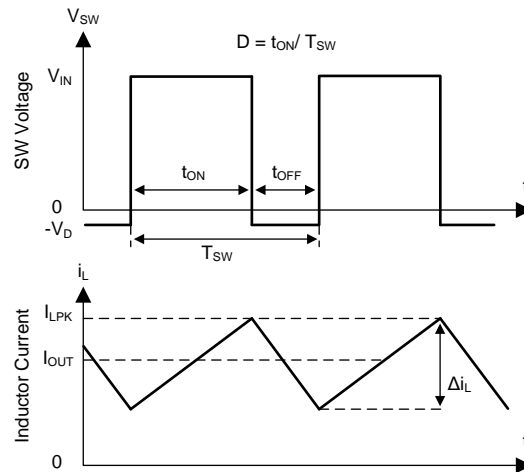

Figure 10. SW Node and Inductor Current Waveforms in Continuous Conduction Mode
The following operation description of the LM76002/LM76003 refers to the Functional Block Diagram and to the waveforms in Figure 10. The LM76002/LM76003 supplies a regulated output voltage by turning on the internal high side (HS) and low side (LS) NMOS switches with varying duty cycle (D). During high-side switch on-time t_{ON} , the SW pin voltage V_{SW} swings up to approximately V_{IN} , and the inductor current i_L increase with linear slope. The HS switch is off by the control logic. During the HS switch off-time, t_{OFF} , the LS switch is turned on. Inductor current discharges through the LS switch, which forces the V_{SW} to swing below ground by the voltage drop across the LS switch. The regulator loop adjusts the duty cycle to maintain a constant output voltage. The control parameter of buck converter is defined as duty cycle $D = t_{ON} / t_{SW}$. In an ideal buck converter, where losses are ignored, D is proportional to the output voltage and inversely proportional to the input voltage: $D = V_{OUT} / V_{IN}$.